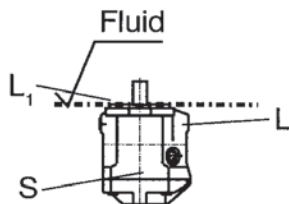

Fig. 1
a) If the minimum fluid level is maintained equal to or above the pump mounting surface leave ports "L", "L₁" and "S" open (see Fig.1).